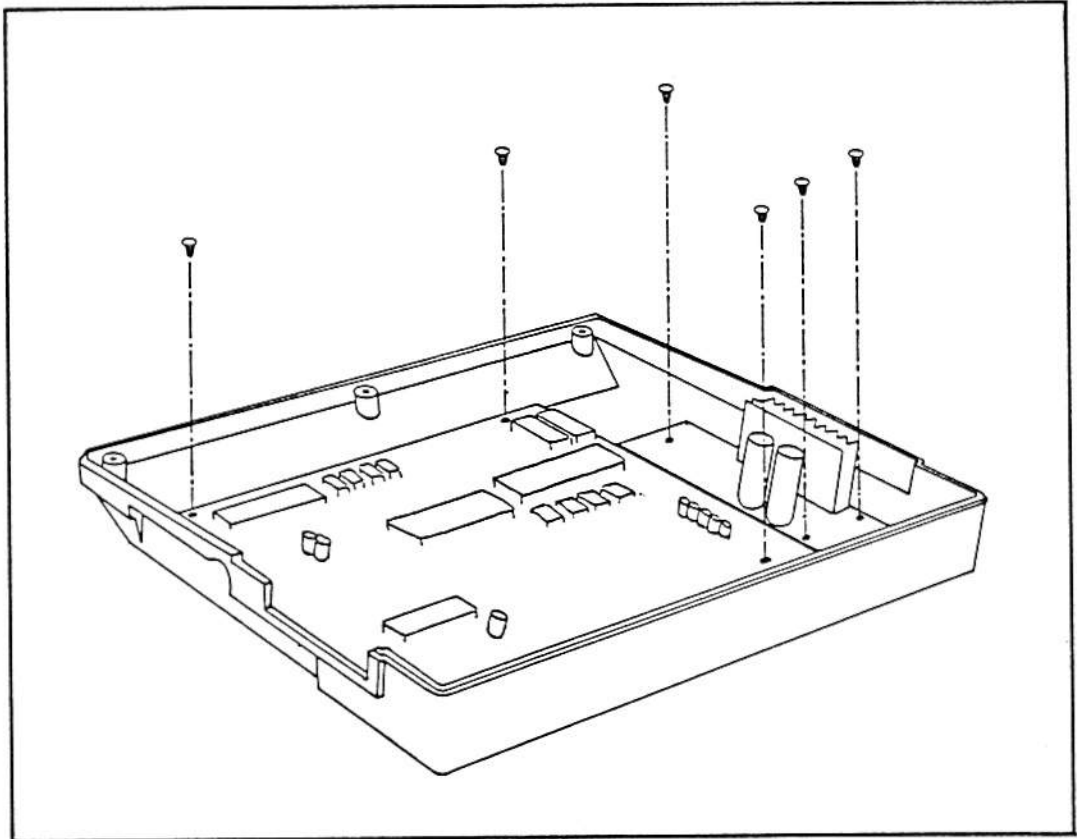

Figure 5.5 Location of Screws on the Printed Circuit Board
(See figure 5.5)
- (1) Loosen the 3 machine screws on the Main Logic Board. (See figure 5.5)
- (2) Gently slide the Logic Board towards power unit until the 2 joystick and cassette ports are inside the housing.
- (3) Lift up the Logic Board and slide it towards the keyboard until the socket clamps of the printer port are inside the housing.
- (4) Gently remove the whole unit from the bottom housing.